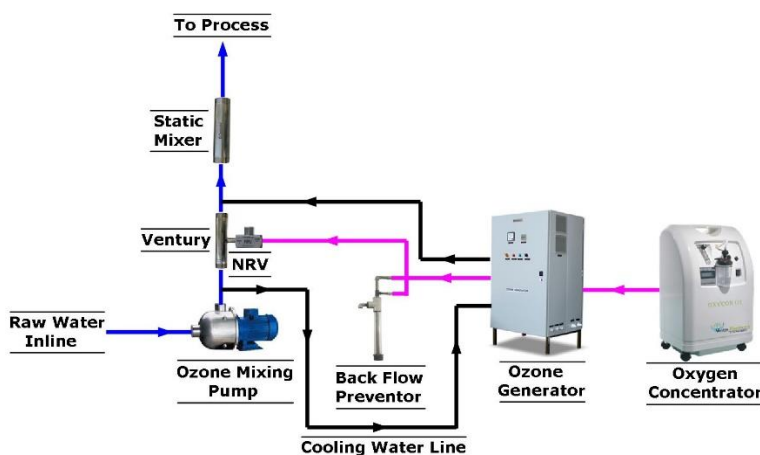

Fig.4 Water Cooled Ozone Generator
2. Water cooled with process water as a cooling water, system having ozone generators of capacities 10g/hr to 250g/hr (fig.4)